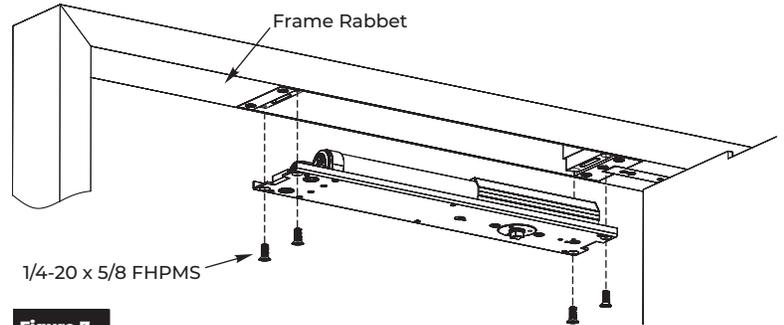

Figure 7
1. Install closer into wood mounting clips with four (4) 1/4-20 x 5/8" machine screws. (Figure 7)